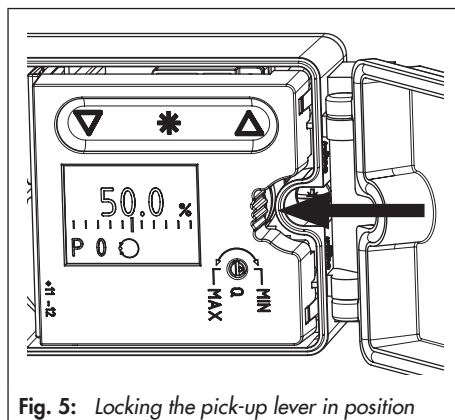

Fig. 5: Locking the pick-up lever in position
3. Place follower clamp (3) on the actuator stem, align it and screw tight so that the mounting screw is located in the groove of the actuator stem.
4. **15 mm travel:** Keep the follower pin (2) on the M lever (1) on the back of the positioner in the pin position 35 (delivered state). **7.5 mm travel:** Remove the follower pin (2) from the pin position 35, reposition it in the hole for pin position 25 and screw tight.
5. Insert molded seal (15) into the groove of the positioner housing.
6. Place positioner on the actuator in such a manner that the follower pin (2) rests on top of the follower clamp (3). While doing this, press on the ribbed area shown in Fig. 5 to lock the pick-up lever in the top position. The lever (1) must rest on the follower clamp with spring force.
2. Insert molded seal (15) in the groove of the positioner housing.
3. Place positioner on the actuator in such a manner that the pin (2) rests on top of the follower clamp (3).
4. While doing this, press on the ribbed area to lock the lever in the top position (see Fig. 5).